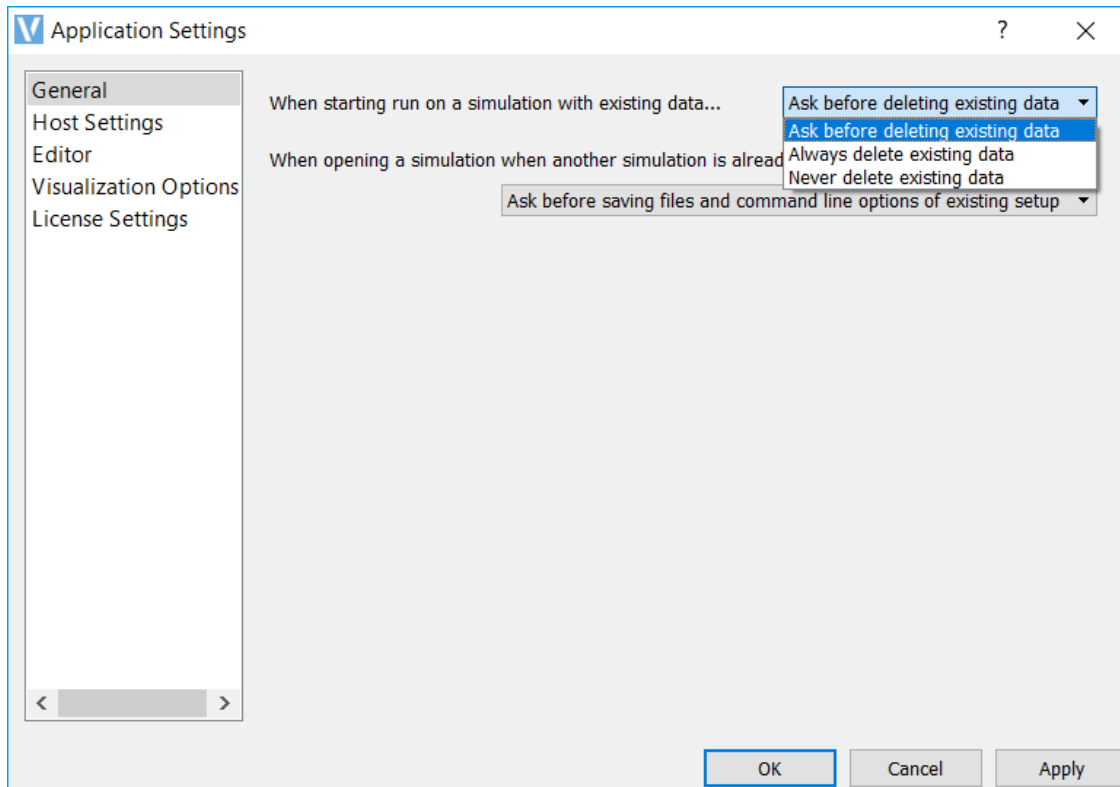

Fig. 5.12: Application Setting When Starting Run on a Simulation with Existing Data
- When starting run on a simulation with existing data, the default setting that Composer will use when starting a simulation that already contains data is *Ask before deleting existing data*. If you know that you will always want to create fresh data for each run, use the pulldown menu to set the default to *Always delete existing data*. If you know that you will always want to run on the data already available, use the pulldown menu to set the default to *Never delete existing data*. See Fig. 5.12.